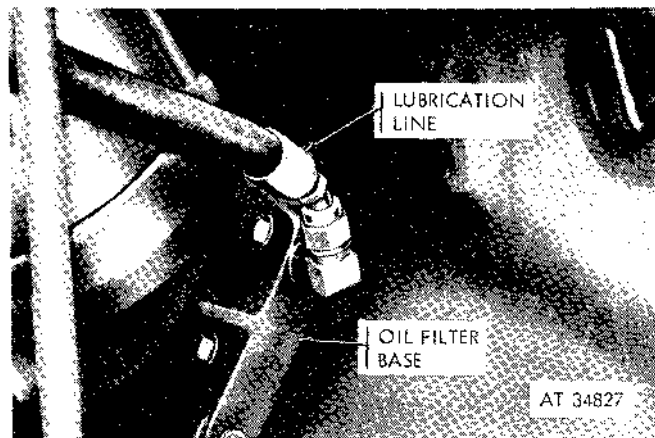

Figure 2-59. Disconnecting lubrication line at oil filter base—diesel.
(3) Disconnect the lubrication line (fig. 2-59) from the elbow connection at the oil filter base plate and remove the line.
(1) Connect the line (fig. 2-59) to the elbow connector at the filter base plate.